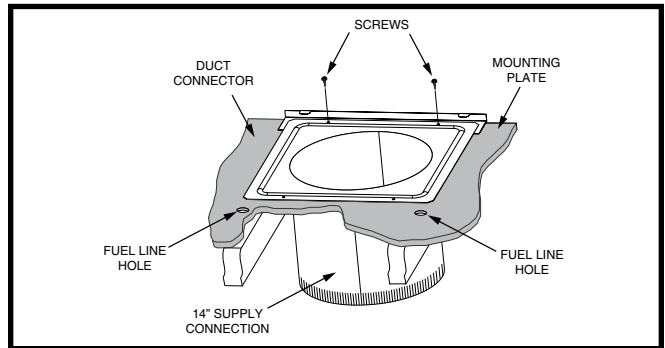

Figure 13. Round Duct Connector Installed
3. Install the mounting plate under the back side of the duct connector. See Figure 13 (page 9). **NOTE:** Align the screw holes in both components.